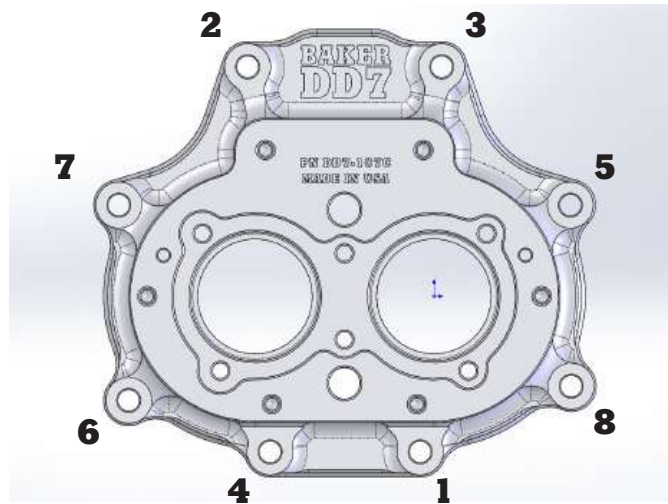

FIGURE 4
- 5) Find the 8 provided 18-8 Stainless Steel Socket Head Bearing Door Bolts (pn 73497) in the Builders Kit box, using 'Blue' Thread Lock place them in the bearing door and torque to 220 in-lbs while following the torque sequence (See Figure 4). Make sure to put in place any exhaust brackets before tightening down the bolts.